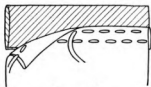

FIGURE 110
*Conspicuous Piping* (Figure 110). — Cut and crease the bias strip as for inconspicuous piping. Fold under the edge of the article to be piped  $\frac{1}{4}$  inch and baste in place. Press the edge with a warm iron and baste the bias strip under the folded edge, taking care to keep the bias always the same width from the folded edge. Stitch on the right side the